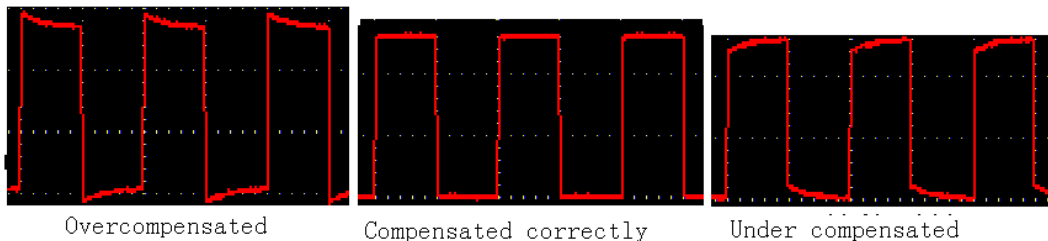
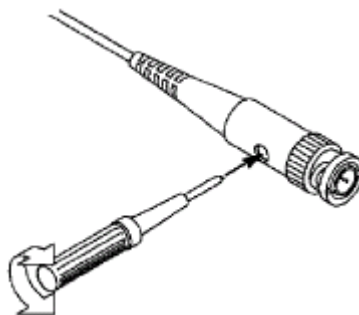

Fig. 7 Displayed Wave Forms of the Probe Compensation
Fig. 8 Adjust Probe
2. Check the displayed wave forms and regulate the probe till a correct compensation is achieved (see Fig. 7 and Fig. 8).